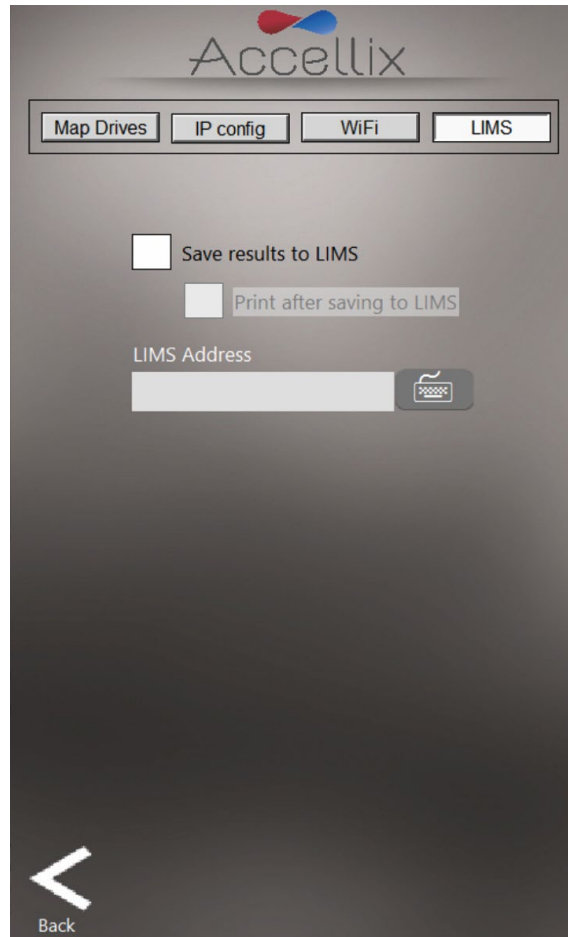

Figure 29: Network screen: LIMS tab
4. To configure a system to save data to the LIMS system, select the LIMS tab (Figure 29). To enable the system to save data to the LIMS system: